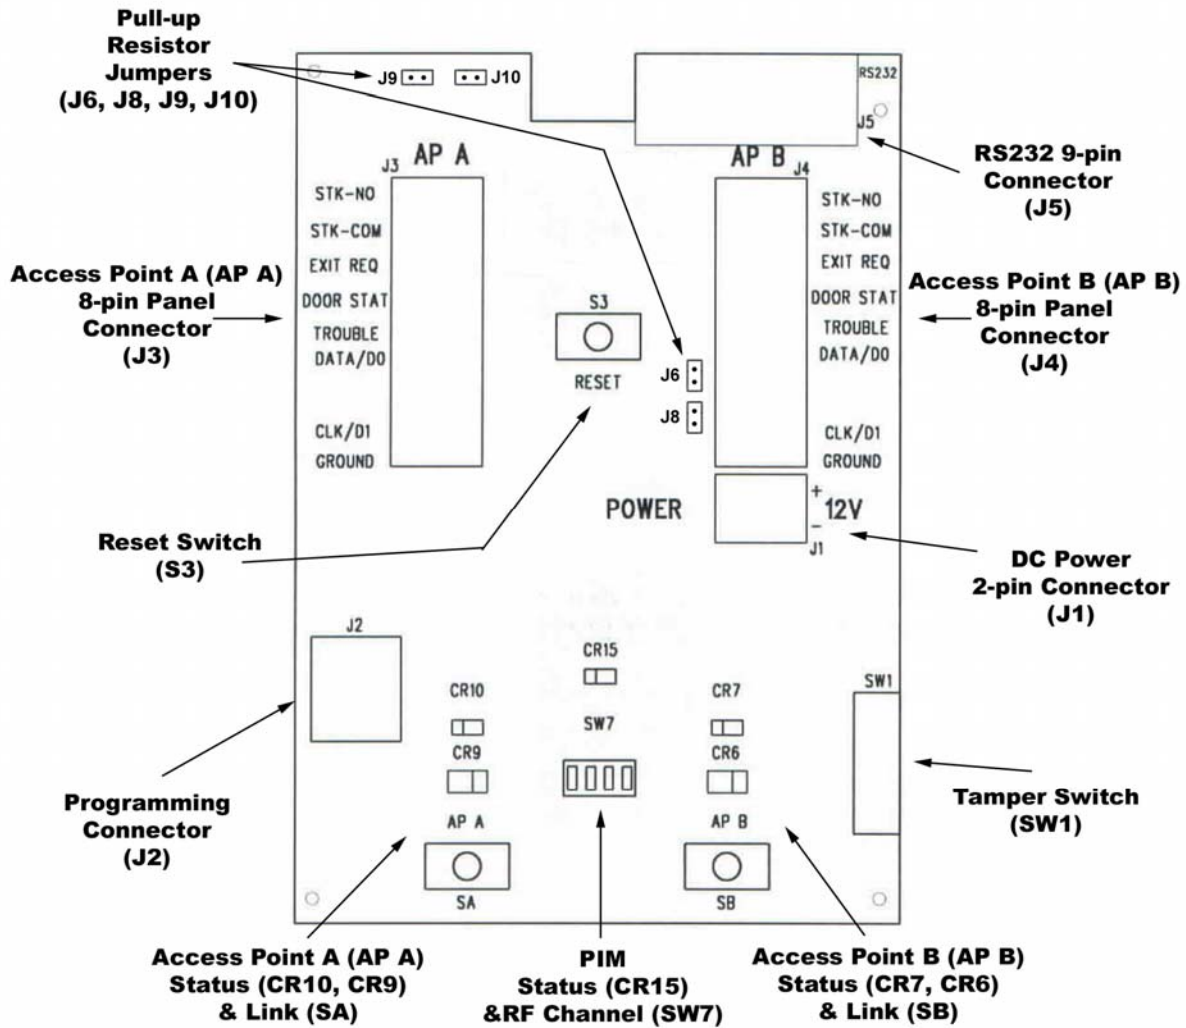
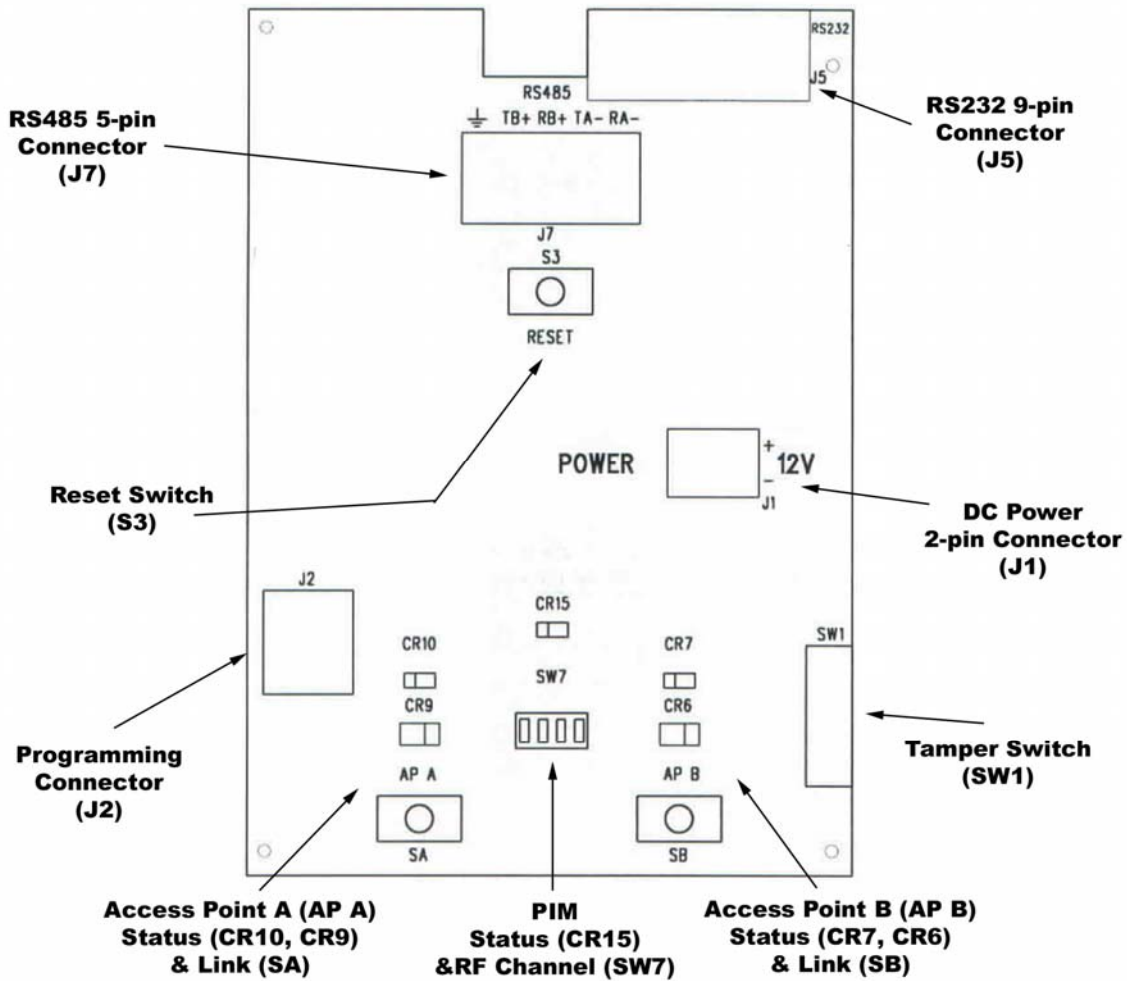

Figure 3-1 – RS232 PIM & PIME Printed Circuit Board (PCB)
Figure 3-2 – RS485 PIM & PIME Printed Circuit Board (PCB)
- 2.2.4 Power the PIM with a 12-VDC supply capable of delivering 300 mA by connecting it to J1 – positive left, negative right (depending on PIM PCB being used. See Figure 3-1, or Figure 3-2).
- 2.2.5 Put the PIM into Link Mode (S1 or S2) for the WAPM (A or B) being tested (depending on PIM PCB being used see Figure 3-1, or Figure 3-2).
There are two versions of the PIM printed circuit board (PCB): RS232 (Figure 3-1), and RS485 (Figure 3-2).
The version of PIM PCB being installed can be identified by observing which connectors are installed on the PCB. Compare the board being installed to Figure 3-1 and Figure 3-2.
3.1.1 RS232 PIM PCB (Figure 3-1)
3.1.2 RS485 PIM PCB (Figure 3-2)
PIM signal wiring connections to an access control panel are accomplished using two 8-Pin Connectors. J3 is used to connect Access Point A (AP A) and J4 is used for Access Point B (AP B) (depending on PIM PCB being used, see Figure 3-1 or Figure 3-2).
DC power is connected to the PIM via connector J1. Positive is the top pin, negative is the bottom pin (depending on PIM PCB being used, see Figure 3-1 or Figure 3-2).
A serial RS485 connection can be made to the PIM using connector J7. This connection is used for system configuration and future features (depending on PIM PCB being used, see Figure 3-1 or Figure 3-2).
The RF channel to be used to communicate with the Access Points is selected using a 4 position, single pole, single throw DIP switch SW7 (depending on PIM PCB being used, see Figure 3-1 or Figure 3-2).
A PIM/Access Point link mode process is initiated using a Link Switch, either S1 for AP A or S2 for AP B (depending on PIM PCB being used, see Figure 3-1 or Figure 3-2).
The status of an Access Point is indicated using two LEDs: one for the real time status and one for trouble status. A red/green LED is used for real time status: CR9 for AP A and CR6 for AP B. A red LED is used for trouble status: CR10 for AP A and CR7 for AP B (depending on PIM PCB being used, see Figure 3-1 or Figure 3-2).
A programming connector (J2) is provided to allow new PIM firmware versions to be installed (depending on PIM PCB being used, see Figure 3-1 or Figure 3-2).
A tamper switch (SW1) is provided to indicate when the PIM enclosure cover is open (depending on PIM PCB being used, see Figure 3-1 or Figure 3-2).